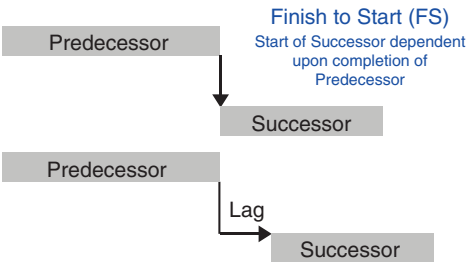

Figure 5.1 Finish to Start relationship.
Figure 5.1 shows the Finish to Start (FS) relationships, where the Successor task cannot start until a Predecessor task has finished. FS is the most common, and preferred, relationship.